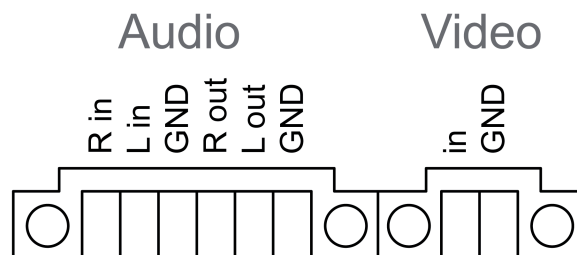

Figure 6: Connection assignment, audio and video connections
- Connect the mains voltage **L** and **N** to terminal (33).
- Control 9 KNX: Connect the KNX bus line to terminal (31).
- Connect audio devices to terminal (35) (Figure 6).
- Connect the video device to terminal (36) (Figure 6).